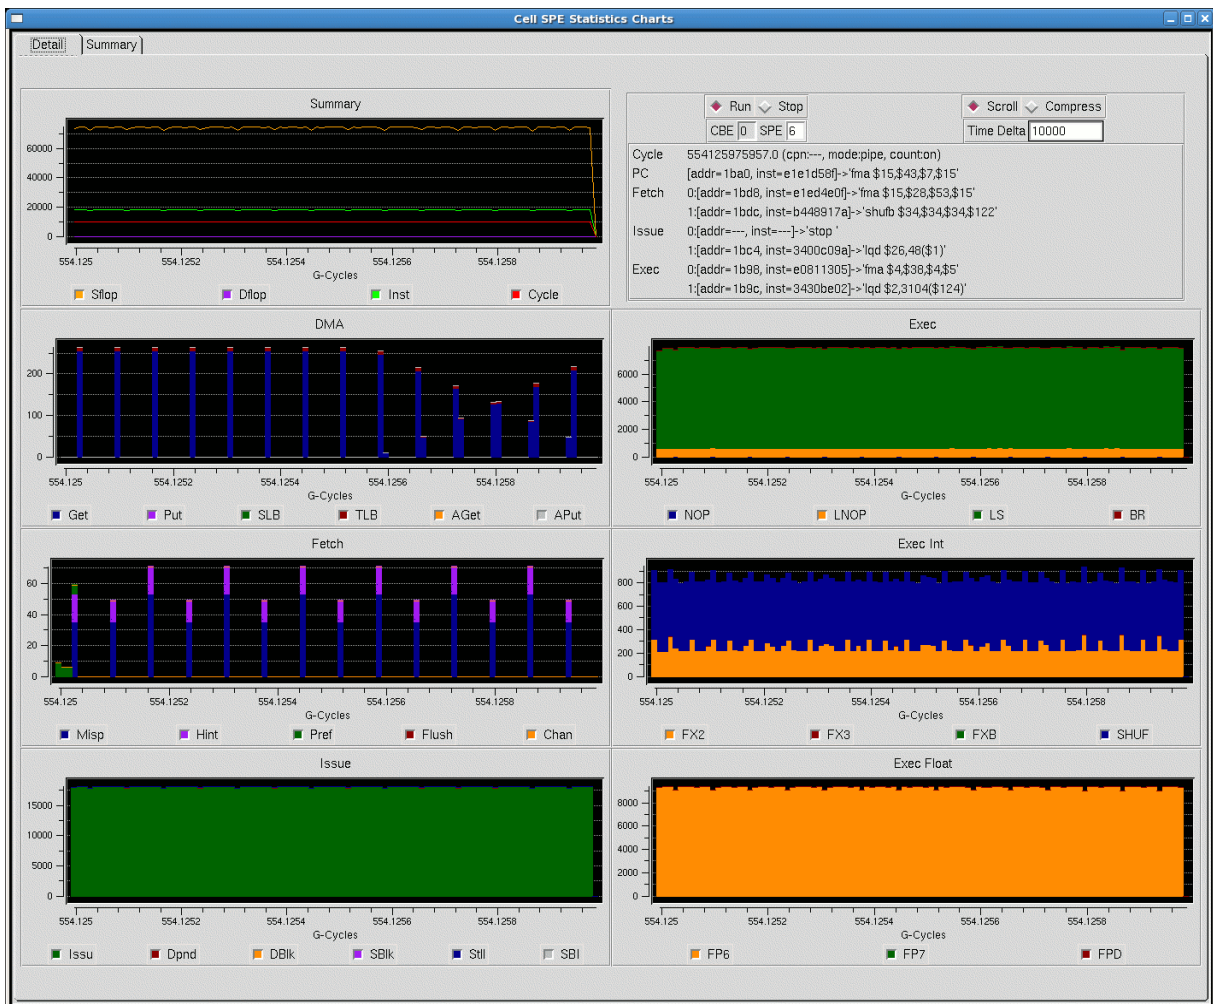

Figure 2-21. SPE Visualization Window
- **SPE Visualization**—Plots histograms of SPU and DMA event counts. The counts are sampled at user defined intervals, and are continuously displayed. Two modes of display are provided: a “scroll” view, which tracks only the most recent time segment, and a “compress” view, which accumulates samples to provide an overview of the event counts during the time elapsed. Users can view collected data in either detail or summary panels. The detailed, single-SPE panel tracks SPU pipeline phenomena (such as stalls, instructions executed by type, and issue events), and DMA transaction counts by type (gets, puts, atomics, and so forth). The summary panel tracks all eight SPEs for the Cell Broadband Engine, with each plot showing a subset of the detailed event count data available. Figure 2-21 on page 22 shows the SPE Visualization window.